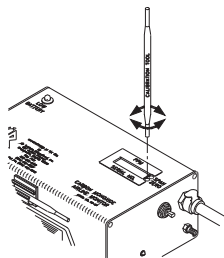

Figure 9
9. Using the adjustment tool attached to the side of the CO monitor, adjust “zero” pot adjustment screw (clockwise to increase, counter-clockwise to decrease) until a “00” reading is obtained (Figure 9).